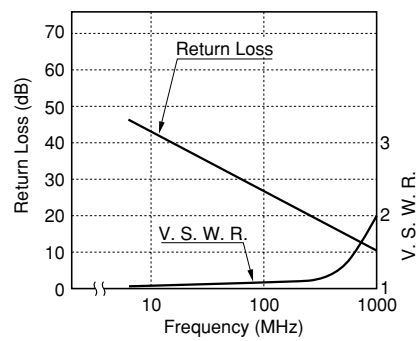

Figure 3.9 High-frequency characteristics
Figure 3.9 shows the performance of the EB2 series relay when a high-frequency signal is switched by the contacts of the relay. Figure 3.9 (1) shows the test circuit. Figure 3.9 (2) shows the isolation loss of the relay. Figure 3.9 (3) and Figure 3.9 (4) respectively show the insertion loss and return loss.
(1) Test circuit